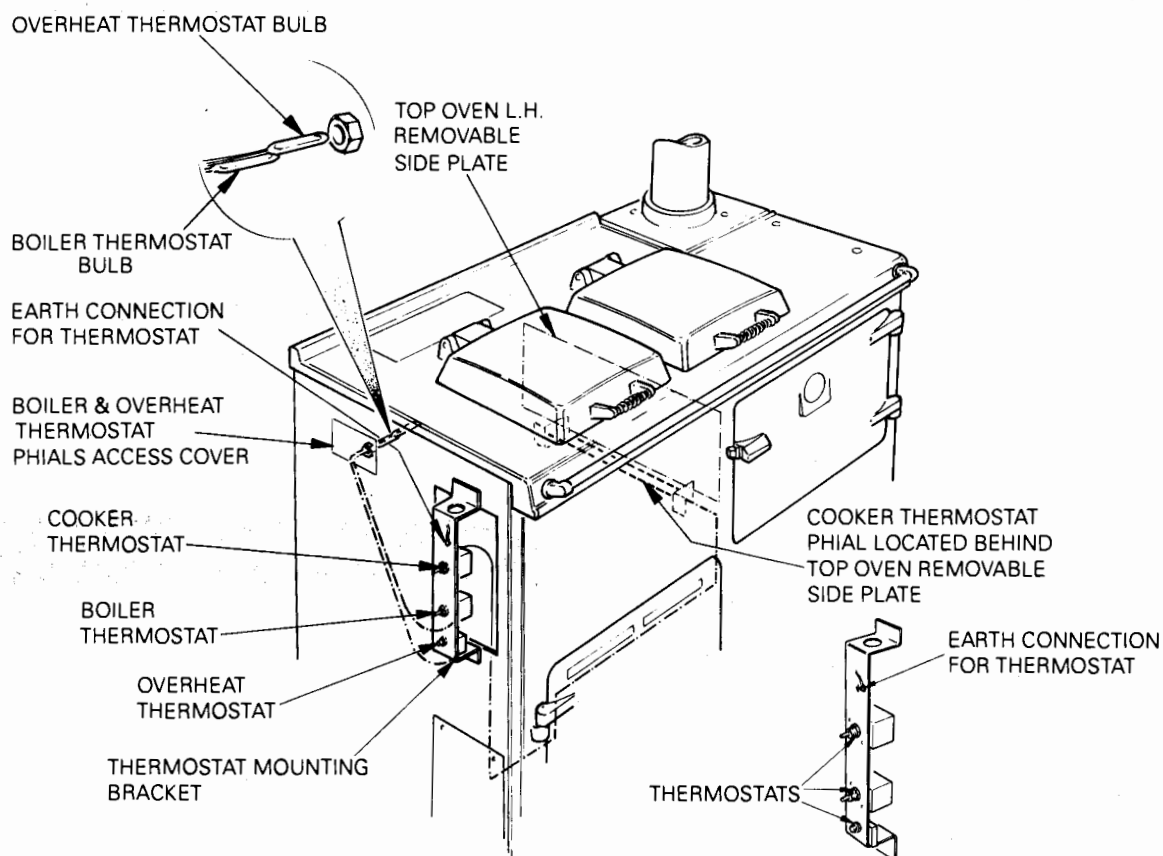

Fig.16 THERMOSTAT MOUNTING AND PHIAL LOCATIONS
4.2 Thermostat Replacement (see fig 16).